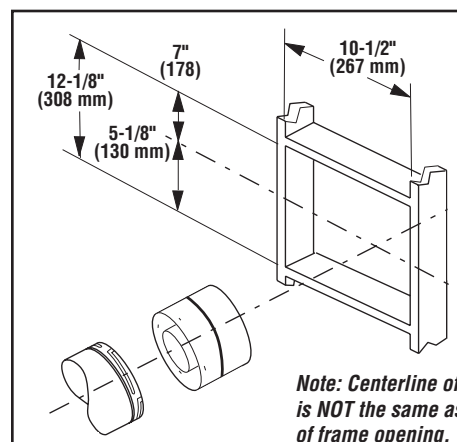

Figure 9-5: Exterior Wall Opening Framing
1. Locate the center of the vent outlet on the exterior wall according to the dimensions shown in **Figure 9-5**.